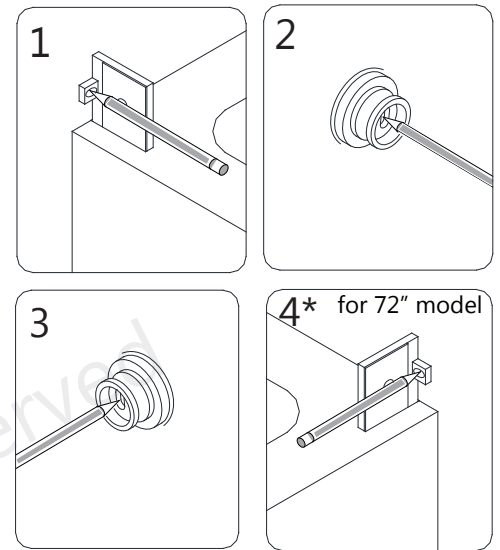

Fig 10
***NOTE: If installing the 72" model,** perform the same procedure on the opposite wall to mark the **Wall Bracket (#19)** for the **Small Stationary Panel Glass (#23)** (see Fig 10.4*). (Fig 10)